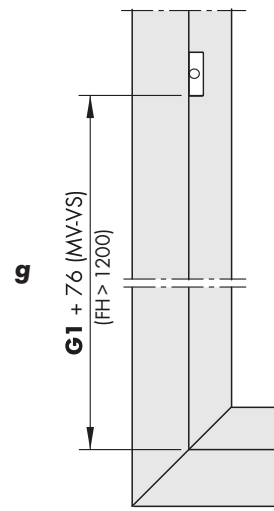

Figure 5
- g At b > 1250 mm, position striker according to the dimensions (Figure 5) and fix in place using grub screws (key dimension 2.5, torque 1.5 ± 0.25 Nm).